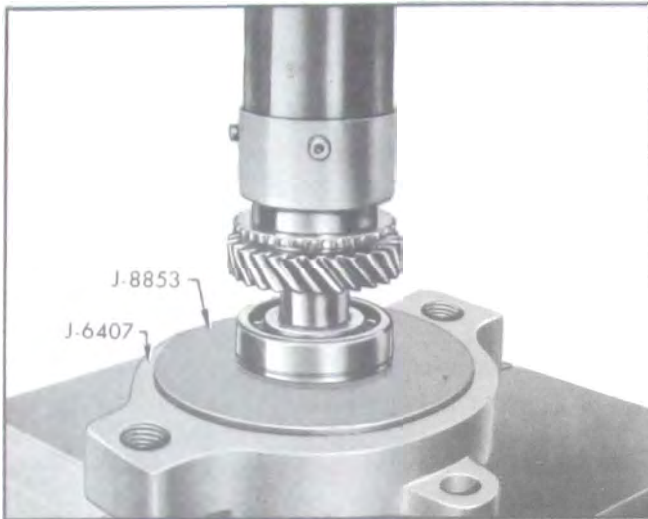

Figure 4-63—Installing Main Drive Gear Bearing
3. Press bearing onto main drive gear (snap ring groove to front), using J-5746 (fig. 4-63). Be sure bearing fully seats against shoulder on gear.